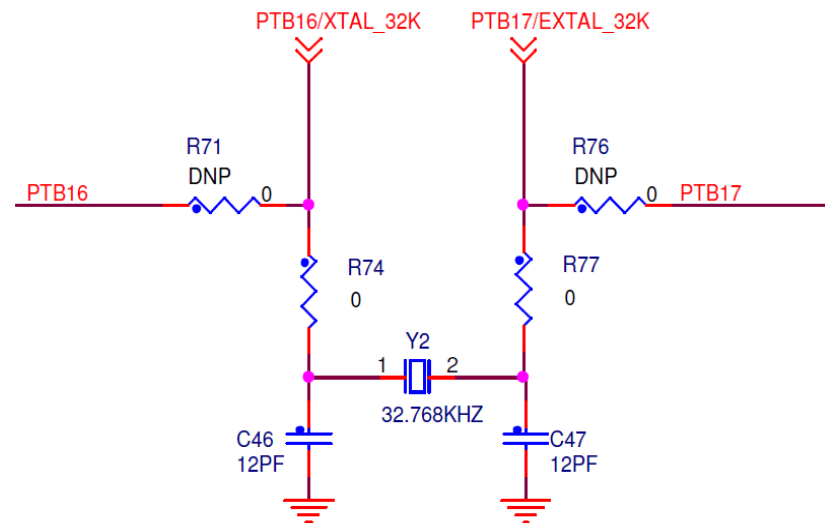

Figure 9. FRDM-KW40Z board's optional 32.768 kHz oscillator circuit
- Optional 32.768 kHz Crystal Oscillator—a secondary 32.768 kHz crystal Y2 is provided (see Figure 9). Use this oscillator for a low-power accurate time base.